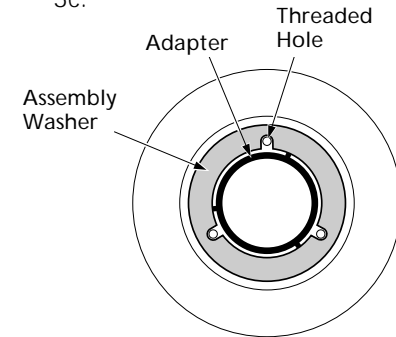

Figure 3c - Positioning Assembly Washer Slots Over Threaded Holes
3. Position the slots in the assembly washer over the threaded holes in the adapter as shown in Figure 3c.